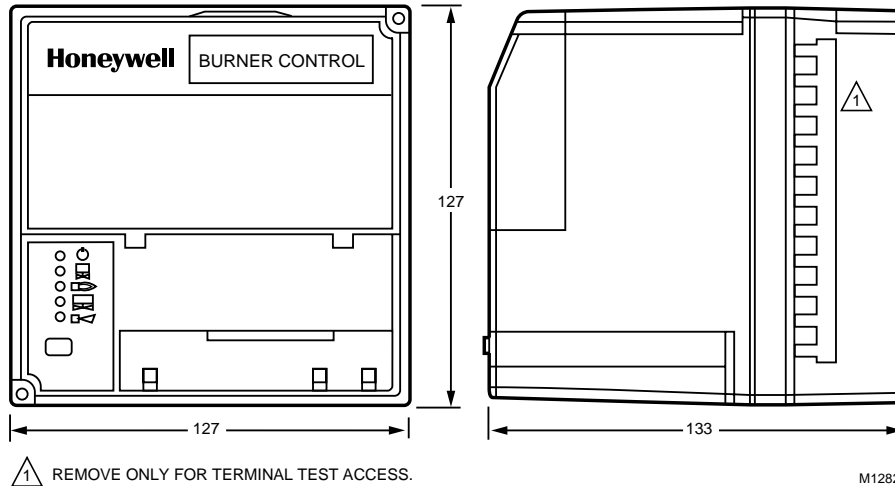

Fig. 1. Mounting dimensions of relay module and wiring subbase in millimeters only.
- Five sequence information light emitting diodes (LED)—with symbols for Power, Pilot, Flame, Main and Alarm (see Fig. 1).
**Dimensions:** See Fig. 1.